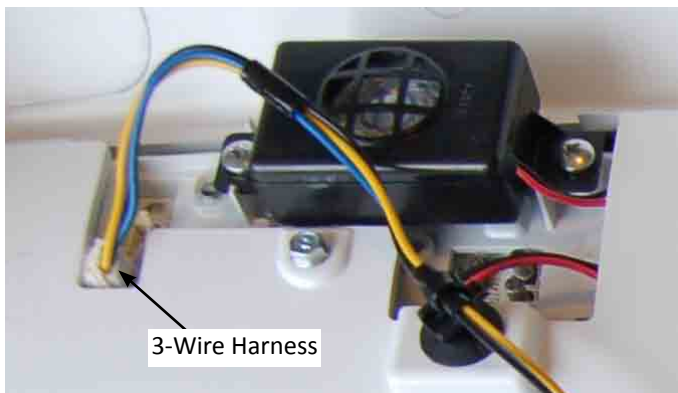

Figure 1
3. Disconnect the 3-wire harness from the User Interface (see Figure 1).